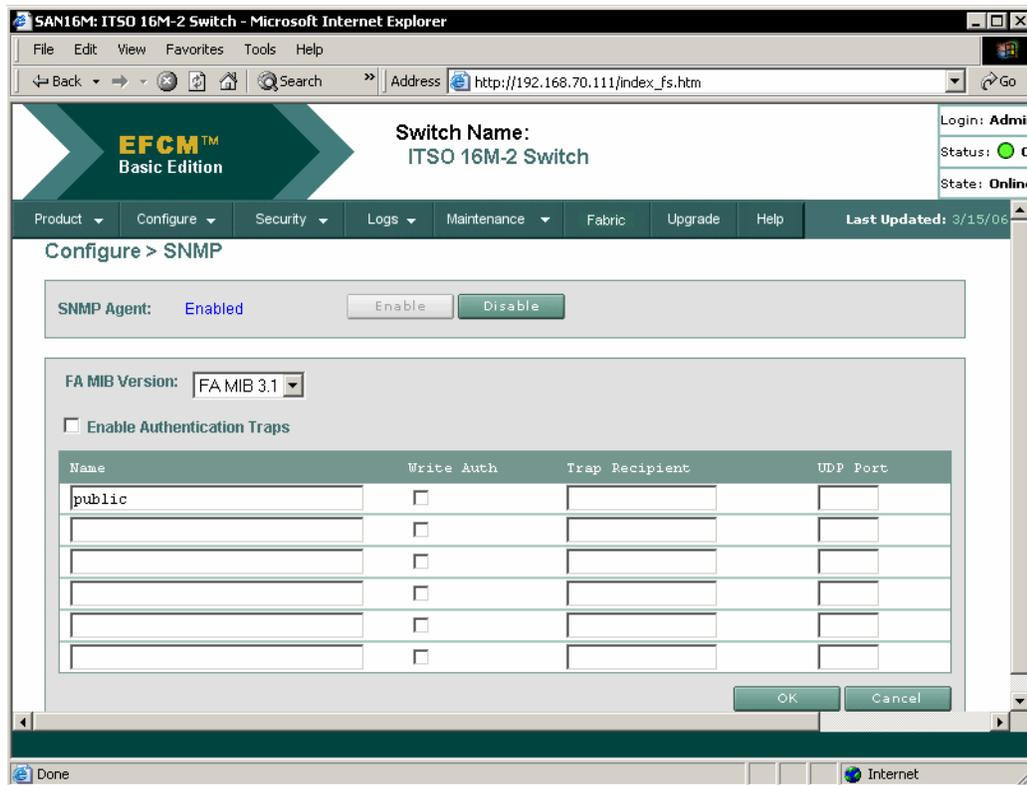

Figure 39 EFCM Basic - SNMP view
1. From the EFCM Basic interface click **Configure**, then select **SNMP**, to display the SNMP view, as shown in Figure 39 on page 36.